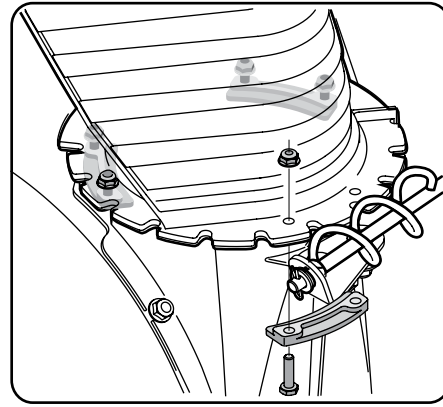

Figure 3-6
3. Secure flange keeper removed earlier with lock nuts and screws. Tighten down nuts securing the other two flange keepers. See Figure 3-6.